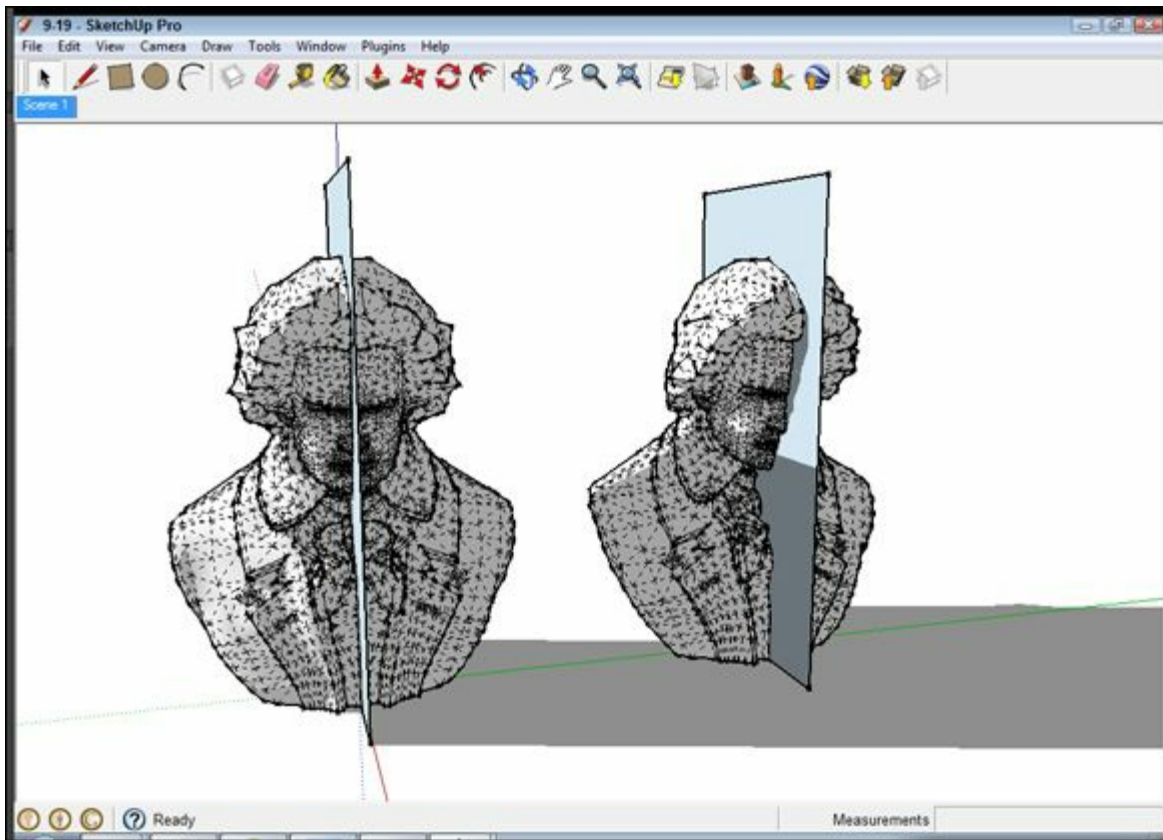

FIGURE 9-17: Make one copy of the group for each part of your model.
6. **Move back out to the master group and make as many copies of that group as the number of parts you're dividing it into (see Figure 9-17).**